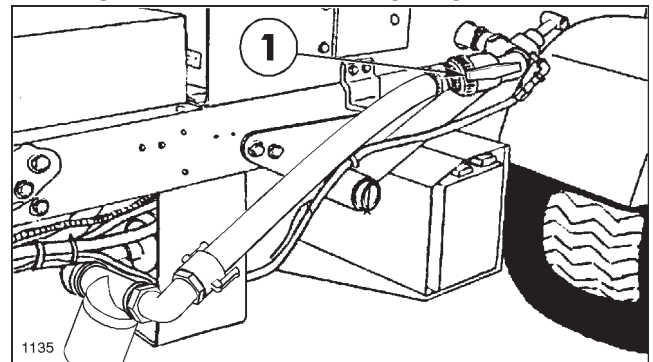

FIG. 6
1. Fill the Tank with water and open the Suction Line Valve. See FIG. 6.